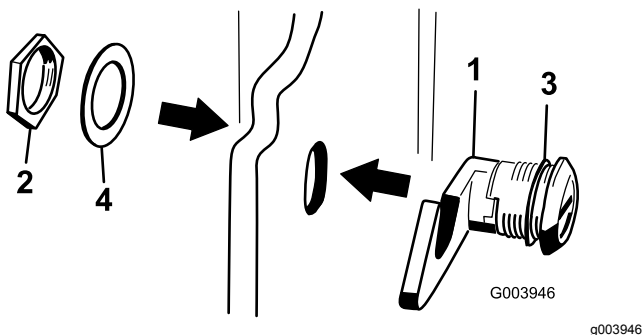

Figure 17
3. Remove the nut from the hood latch assembly (Figure 17).
4. Outside the hood, insert the hook end of the latch through the hole in the hood. Make sure that the rubber sealing washer remains to the outer side of the hood (Figure 17).